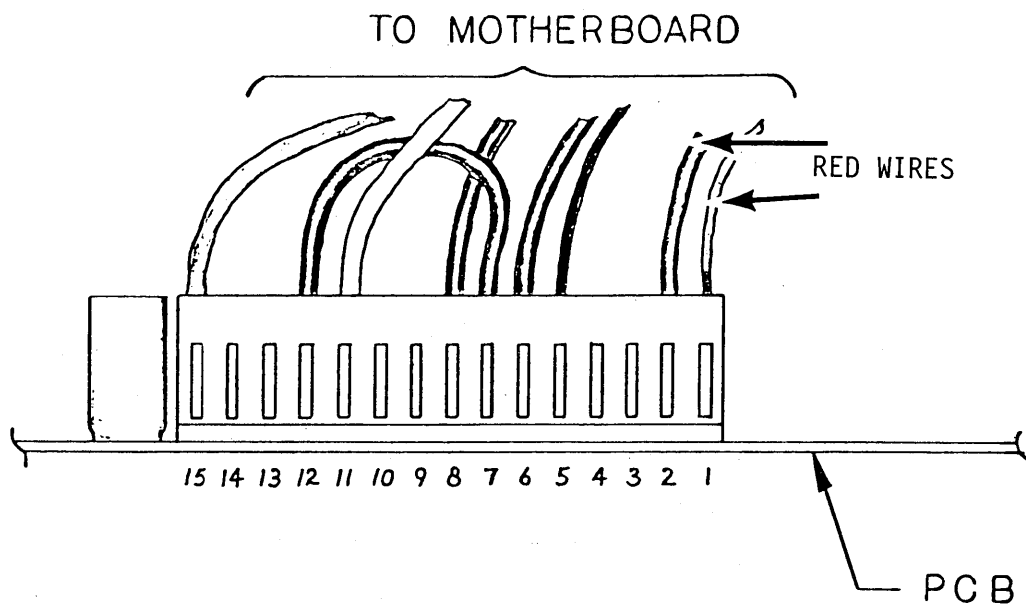

Figure 4-1. Power Supply Connector
- c. Locate the J1 connector on the power supply control board (white rectangular connector with harness cable joining the motherboard). See Figure 4-1, Power Supply Connector.